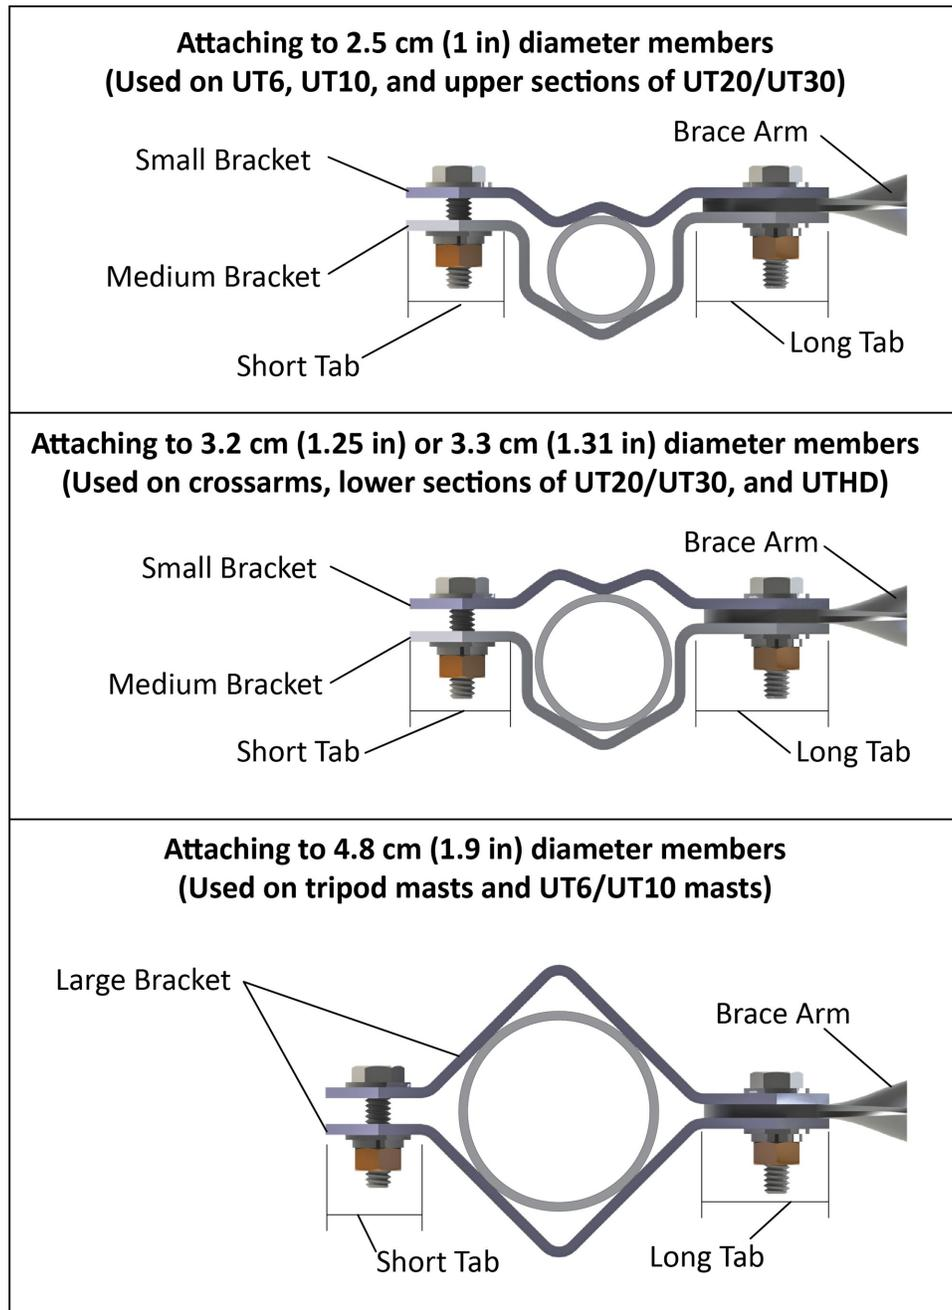

FIGURE 7-43. Bracket selection
1. Consult FIGURE 7-43 (p. 49) and Table 7-2 (p. 50) to determine which brackets are needed at either end of the brace to attach it to the crossarm and tower. The figure also indicates what orientation is needed when the small bracket is used.